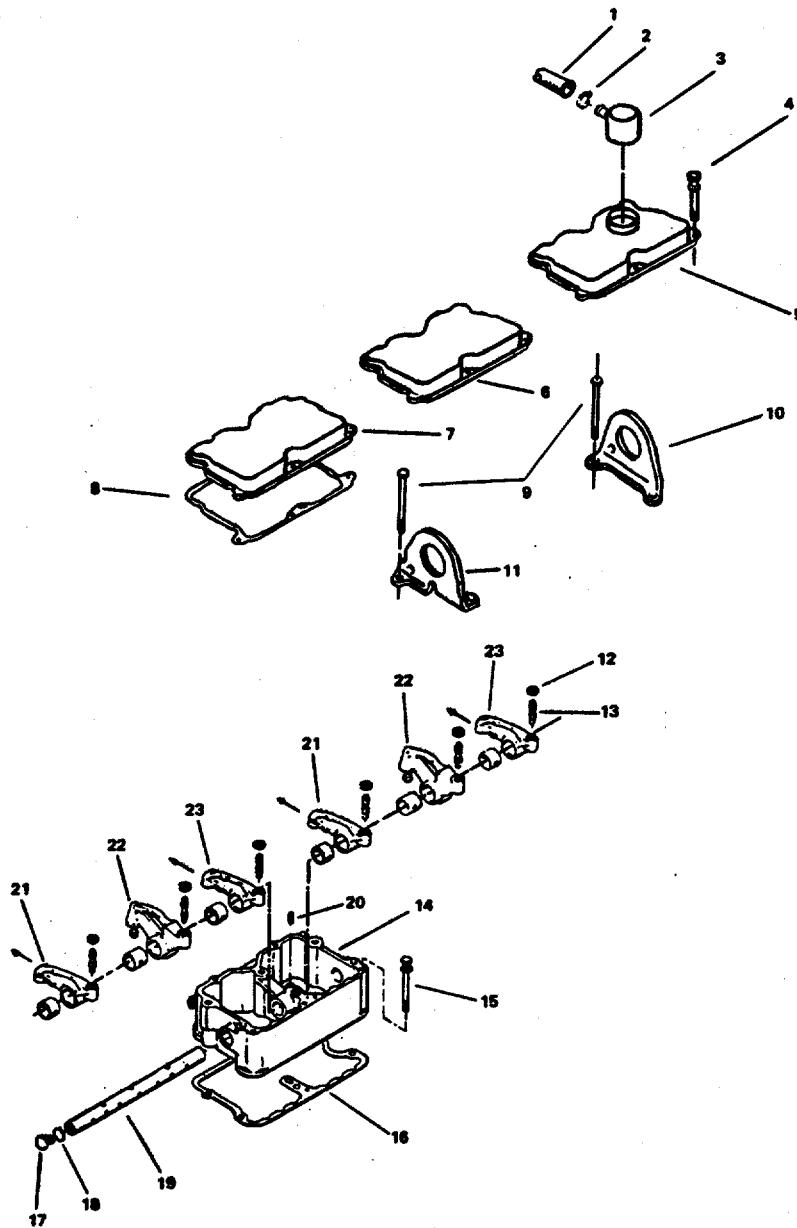
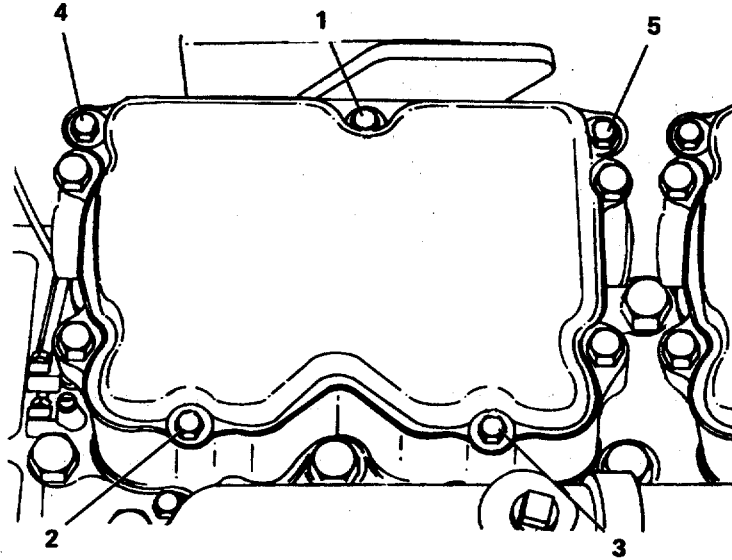

FIGURE 2-30. Rocker Lever Housing/Cover Group.
FIGURE 2-35. *Rocker Cover Torque Sequence.*
- a. Remove the crankcase breather and tube (FIGURE 2-30) as follows:
- (1) Loosen the hose clamp (2) at the breather vent tube (3).
- (2) Remove the nonmetallic hose (1).
- (3) Pull crankcase breather (3) from the rocker housing cover (5).
- b. Remove the five capscrews (4) from each rocker housing cover (5, 6, 7).
- c. Remove covers (5, 6, 7) and gaskets (8) from rocker lever housing (14).
- d. Remove capscrews (9) from rocker lever housing (14).
- f. Remove the rocker lever housing (14) as follows:
- (1) Hold the rocker levers in position (21, 22, 23, FIGURE 2-30).
- (2) Install the ball end of the adjusting screws (15) in the push rod sockets.
- (3) Install gaskets (16).
- (5) Install rocker lever housing capscrews (15, FIGURE 2-30).
- (6) Install engine lifting brackets (10, 11).
- (7) Install capscrews (9) in rocker lever housing (14).
- e. Install gasket (8, FIGURE 2-30) on each rocker lever housing.
- f. Install rocker housing covers (5, 6, 7, FIGURE 2-30) on the rocker lever housing (16).
- g. Install the five capscrews (4) in each cover (5, 6, 7).
- h. Tighten the capscrews in each cover in the sequence shown (FIGURE 2-35) to 15 ft-lb torque.
- i. Install the crankcase breather vent tube (3, FIGURE 2-30) on rocker housing cover (5).
- j. Install nonmetallic hose (1) on breather (3) and install clamps (2).
- k. Tighten hose clamps (3) to 40 in-lb torque.